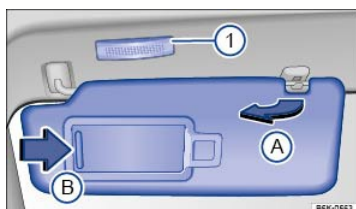

Fig. 90 Sun visor.
A vanity mirror is behind a cover in the sun visor. When you slide the cover open ⇒ Fig. 90B, the light ⇒ Fig. 90① comes on.